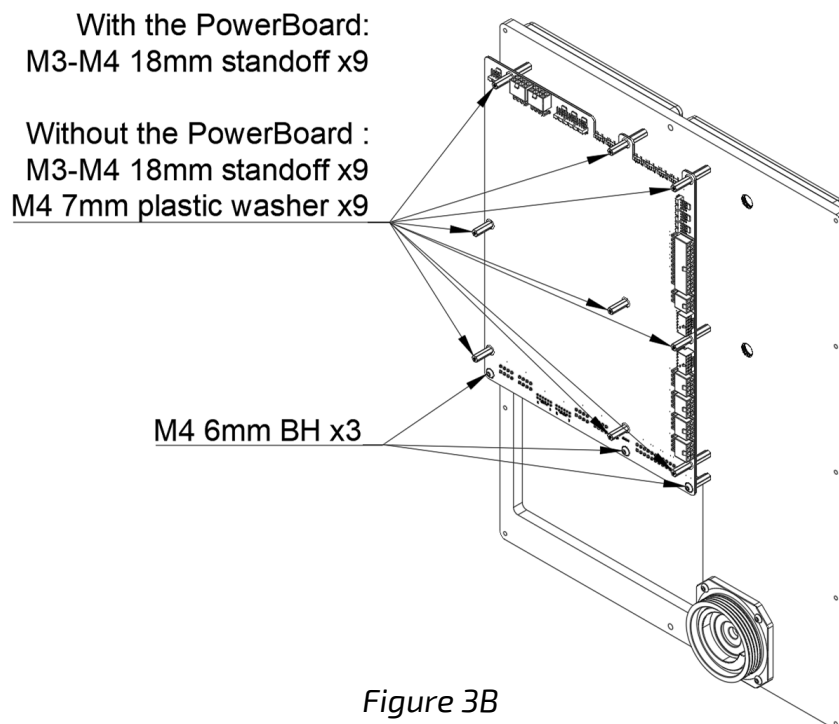

Figure 3B
- Step 3B: If an Absolute PowerBoard is used then secure it with M3-M4 18mm standoff x9. If no PowerBoard is used then install M3-M4 18mm standoff x9 with M4 7mm plastic washers under them onto the previously installed M4 20mm standoffs. Install M4 6mm BH x3 onto the bottom 3 positions according to *Figure 3B*.